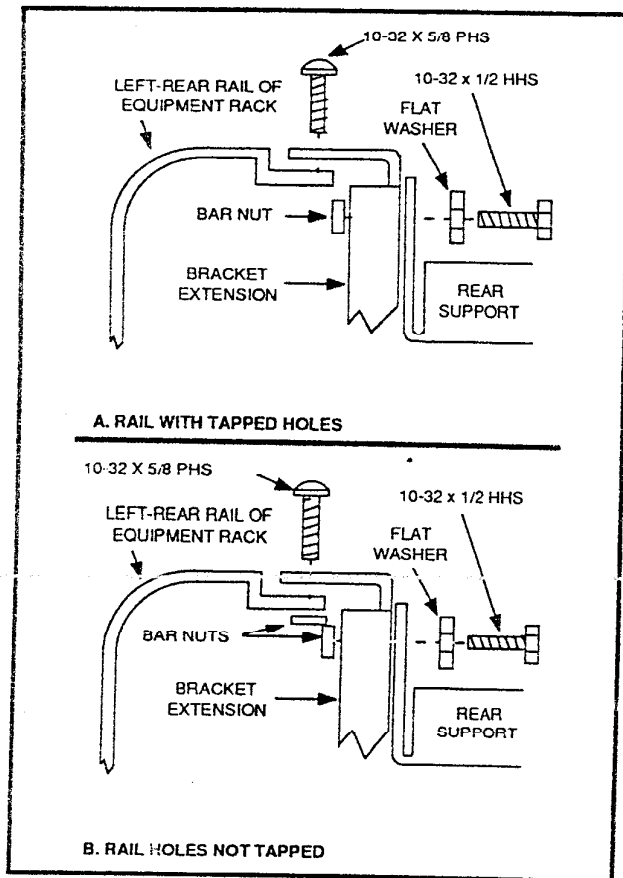

Figure 7-6. Installing bracket extensions.
5. Secure the bracket extensions to the rear support using four 10-32 x 1/2-in hex-head screws, four flat washers, and two bar nuts as shown in Figure 7-6.